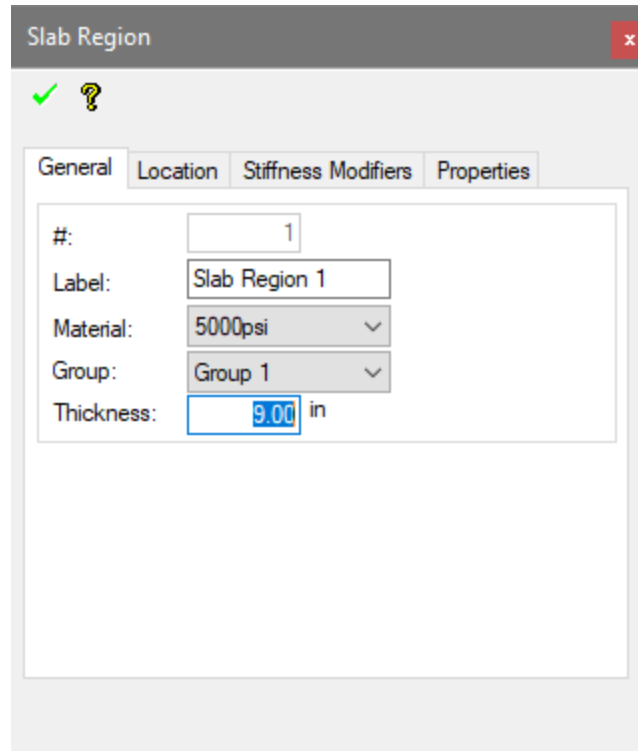

Figure 5-2
- Click *OK* to make the modification and close the window. If we bring up the properties on the slab region, we should see the material property set to 5000psi as shown in **FIGURE 5-2**.